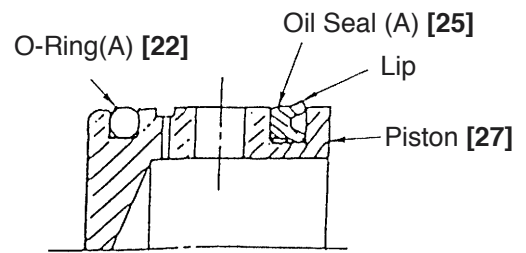

Fig. 18
(4) Mounting of Oil Seal (A) [25]
When mounting Oil Seal (A) [25] on the Piston [27], ensure that the lip portion of the oil seal is directed toward the rear surface of the piston, as illustrated in Fig. 18. Prior to reassembly, thoroughly coat Oil Seal (A) [25] and O-Ring (A) [22] with grease (Grease for Impact Drill, Part No. 980927 or 981840 or 308471 is recommended), and carefully ensure they are not damaged.